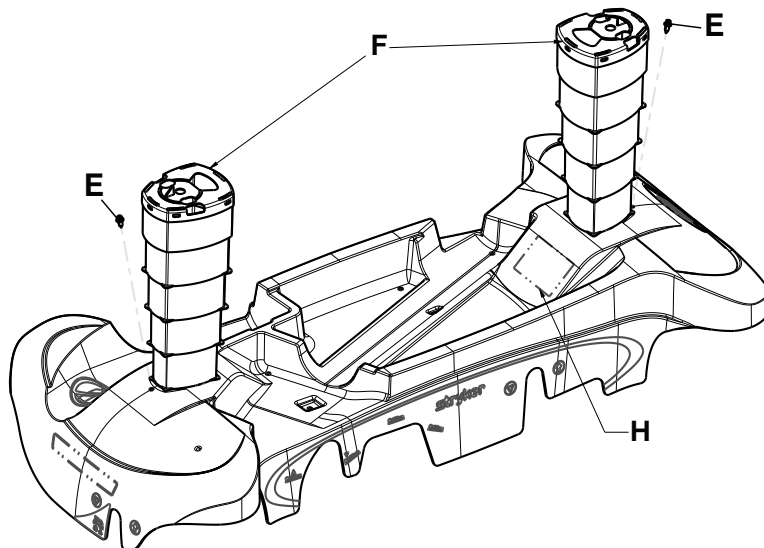

Figure 62 – Hood removal
14. Using a #2 Phillips screwdriver, remove the scrulok assemblies (E) that secure the hood to the hood retainer, if applicable (Figure 62). Save the scrulok assemblies.
20. Using a #2 Phillips screwdriver, install the scrulok assembly (E) (removed in step 14) that secures the hood to the hood retainer (Figure 62).
21. Affix the supplied label (H) to the base hood in the location specified.
22. Install the bellows (F) (removed in step 15) over the jack shaft on both ends of the product. Fit the bellows through the hole in the hood to secure the bellows to the base hood.